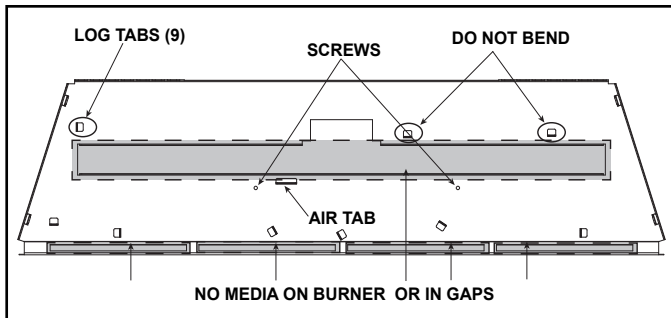
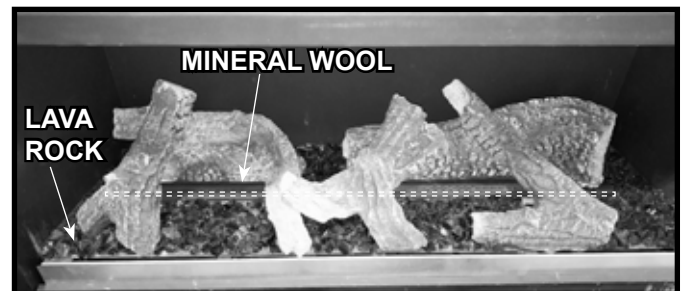

Figure 1 Empty Base Pan
Figure 10 Properly Placed Lava Rock / Location for Mineral Wool
The SLR-X-AU-L utilized (7) tabs. Do not bend the two right rear tabs or the air tab. See Figure 1.
- Place lava rock onto areas of the base pan to fill in around the logs as desired. It is acceptable to completely cover the base pan. DO NOT cover burner, gaps behind burner, air tab, or block the space in front of the pilot assembly. See Figure 1. Place lava rock in a single layer so no sheet metal is showing. Figure 10 shows lava rock properly placed in relation to logs and areas that must be avoided.